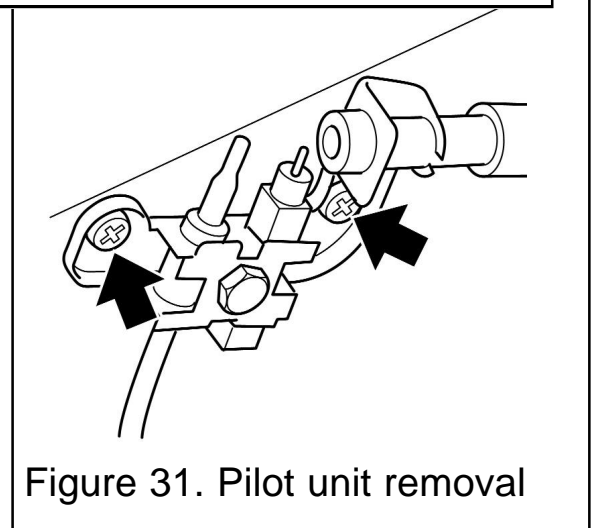

Figure 31. Pilot unit removal
6. Remove the two screws securing the pilot unit . See figure 31.